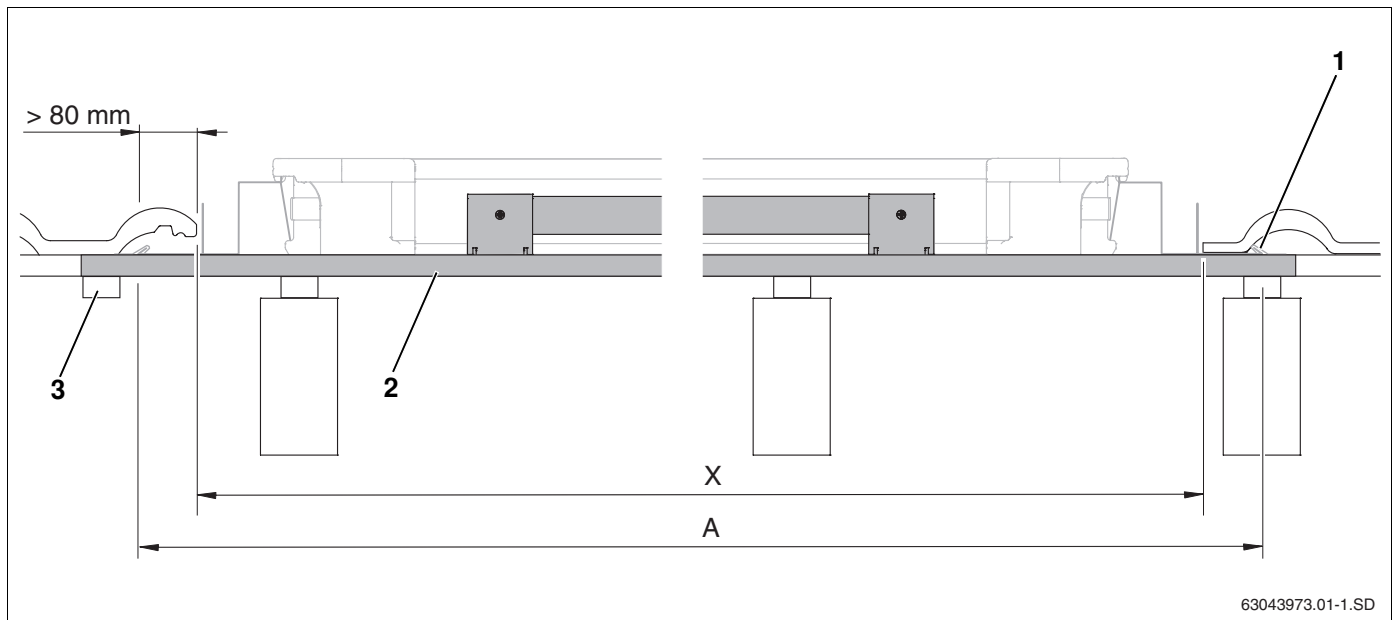
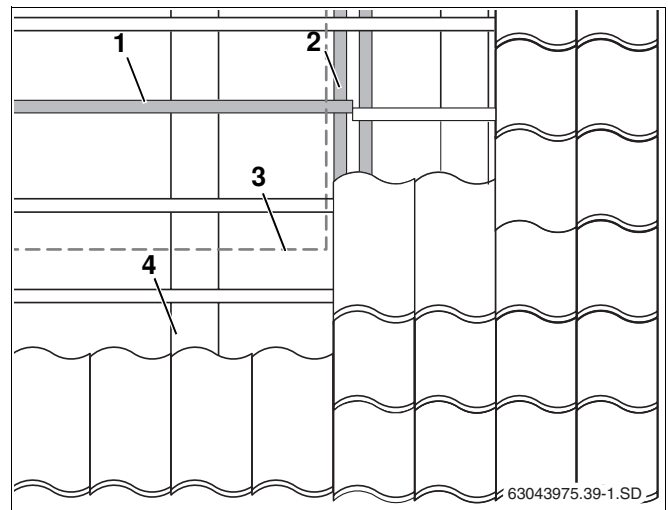

Fig. 9 Length of additional roof battens (here: first lower roof batten with anti-slip protection)
Fig. 13 Moving roof battens around the collector array area
The minimum length of the additional battens (Fig. 9, **Item 2**) is the width of the collector array (Table 5, page 15, dim. A) plus approx. 10 cm for the side clips (Fig. 9, **Item 1**).
- Fasten batten butt joints to the joist or ensure that they are adequately secure, e.g. by fastening them to the already existing roof battens (Fig. 9, **Item 3** and Fig. 13, **Item 2**).
If an additional roof batten (Fig. 13, **Item 1**) has to be fitted near a pre-existing one, the pre-existing one must be moved near to the collector array (Fig. 13, **Item 3**) and adequately fastened (Fig. 13, **Item 2**).